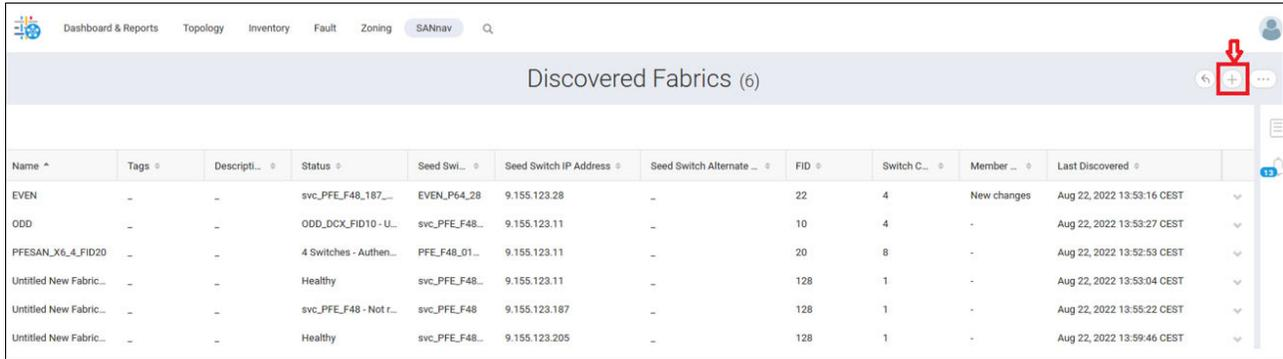

Figure 4-10 Adding a fabric
2. Click the + icon in the upper right to add a fabric, as shown in Figure 4-10.